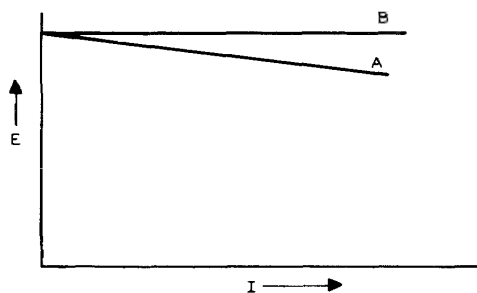
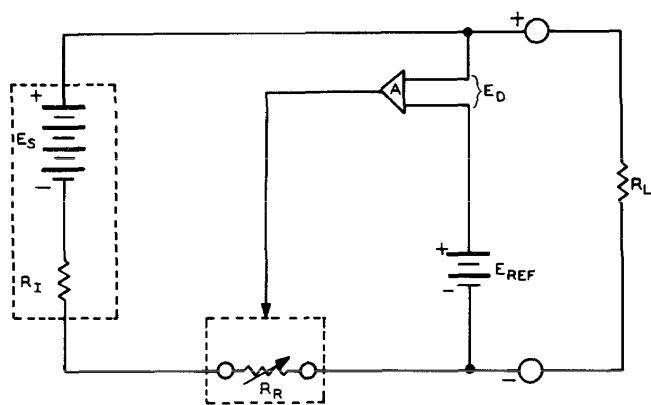

Figure 6
Figure 7
In Figure 6, line A represents the output of a typical power supply. As the current (I) increases, the voltage (E) decreases. Line B represents a regulated Power Supply where the voltage remains constant with increasing current. Figure 7 shows a basic voltage regulated power supply, where E_S is a DC voltage source, and R_I is the internal resistance of the voltage source. E_{REF} is an independent reference voltage source of the same voltage as desired from the output. When a load, R_L , is applied to the output terminals, current flows. This current flow causes a voltage drop across R_I and R_R , with an attendant voltage drop between the (+) and (-) output terminals.